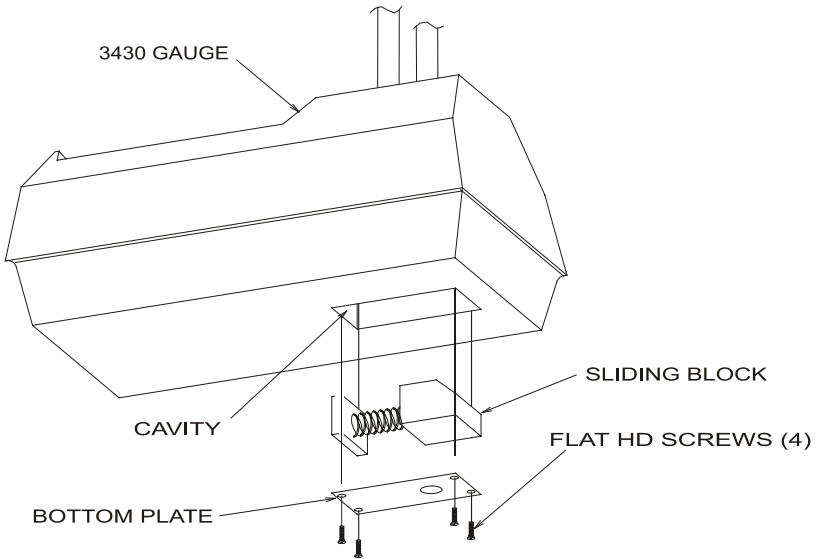

Figure C-1. Removing the Tungsten Sliding Block
- ✓ Clean the heads of the four screws holding the bottom plate to the gauge base (Figure C-1). Using a screwdriver, remove the four screws and the plate. Replace the plate if excessive wear is evident on the inside surface of the plate.